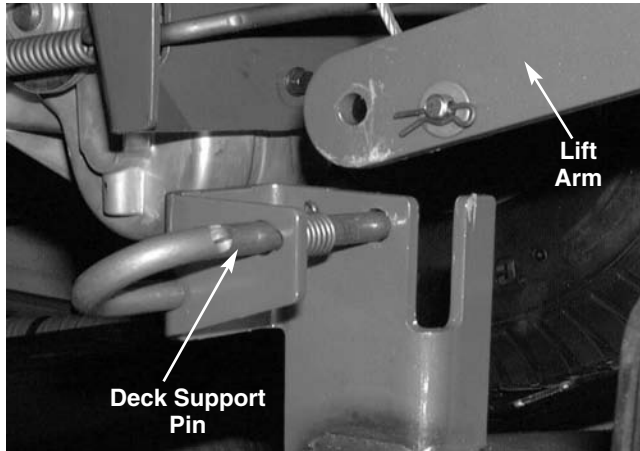

FIGURE 2.
- 4). Pull the rear deck support pins outward from the deck lift arms. See figure 2.